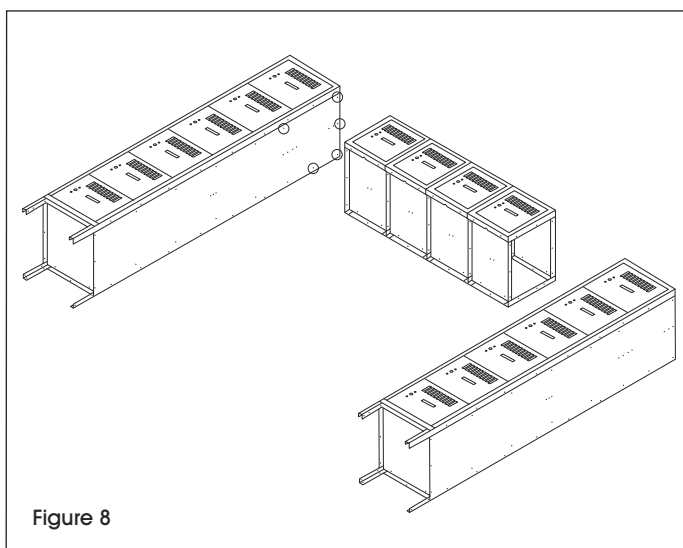

Figure 8
- Bolt the horizontal frame to the two vertical frames as shown in Figure 8 (use 5 bolts and nuts per side). Do not use the center bottom hole on either side; these will be used for attaching the coat rod. Finish bolting the door frame (7) to the body of the vertical units by adding the top bolts. The inside frame will share the bolt with the horizontal unit. (See Figure 8)